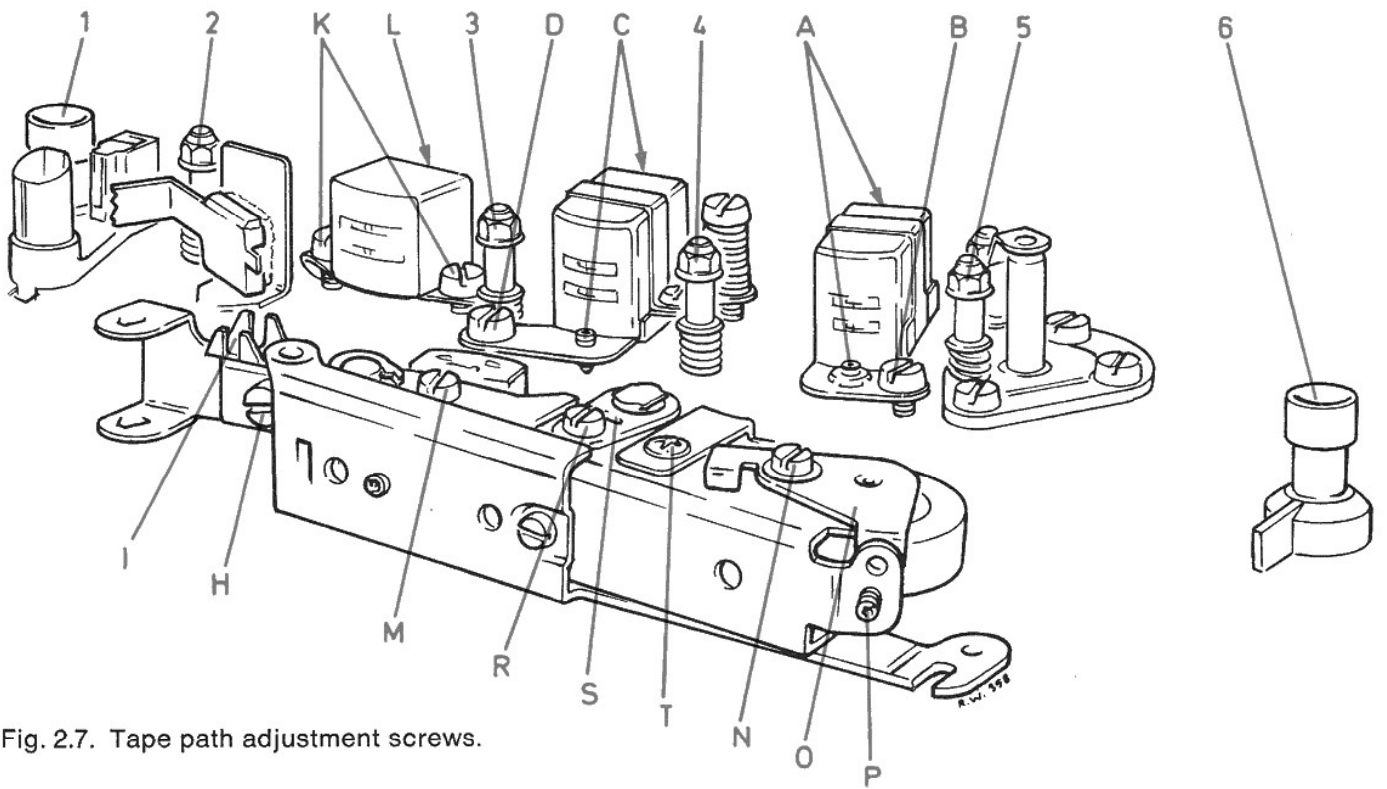

Fig. 2.7. Tape path adjustment screws.
Load the recorder with a tape, and move the operating lever slowly to the normal forward drive position. Check that the bias head neither touches the height adjustment screws C, see fig. 2.7, on the record head mounting plate, nor presses the tape against the record head. Also check that the bias head is parallel to the record head.
Insert a tape and set operating lever to normal forward drive. Check by visual inspection that the capstan and the pinch roller wheel are parallel. If not, adjust by first loosening screw (N), see fig. 2.7, and then adjust with set screw (P) until the wheel and capstan are parallel. Tighten screw (N).
Set the operating lever to normal forward drive with tape on the recorder. Loosen screw R, see fig. 2.7, on the inertia idling roller adjustment plate 291180. Insert a screwdriver in slots of the plate and press forwards or backwards until the idling roller is parallel with the heads. Note that the tape does not bulge on any side of the roller. Then tighten the screw.
By giving the inertia idling roller a light inclination (see paragraph 2.3.6), the roller will give the tape a light upward lift causing the tape to touch the upper flange on the tape guide posts 2, 3 and 4, see fig. 2.7. The result is a precise guidance of the tape past the heads. For a best possible result, readjust the tape guide posts 2, 3 and 4 so that each one slightly touches the tape with the upper flange, taking care to avoid that the tape bulges at any of the guide posts. The guide posts are adjusted in the sequence 4, 3, 2, see fig. 2.7, while the tape is moving at $7\frac{1}{2}$ ips. Repeat the adjustment until the tape guidance is as smooth as possible.
Play back Tandberg test tape No. 1. This is a full track prerecorded tape with 1000 Hz recorded at 7½ ips and with area corresponding to track 3 reduced by approx. 30 dB. Adjust the height of the playback head by means of the screws (A), see fig. 2.7, until minimum output is obtained from track 3 (channel R), while endeavouring to maintain the headfront parallel to the tape.
Play back Tandberg test tape No. 2. This is a full track prerecorded tape with 10,000 or 15,000 Hz recorded at 7½ ips. Adjust the azimuth position of the playback head by means of screw (B), see fig. 2.7, until maximum indication on the voltmeter is obtained on both channels, or best compromise.
Insert a new tape, and start the recorder in normal forward drive. Check visually that the tape appears to run parallel with the upper track of the record head, with a play of approx. 0.1 mm (0.004"), see fig. 3.2. If necessary adjust the height with screws (C), see fig. 2.7, while endeavouring to maintain the headfront parallel to the tape.
Load a new tape into the recorder and record at tape speed 7½ ips a 15,000 Hz signal in stereo. Set the SOURCE/TAPE buttons to position TAPE. Adjust both INPUT LEVEL potentiometers for approx. 150 mV reading on AC voltmeters connected to the LINE or RADIO outputs. Adjust the record head azimuth screw (D), see fig. 2.7, for maximum output from both channels simultaneously or best compromise.